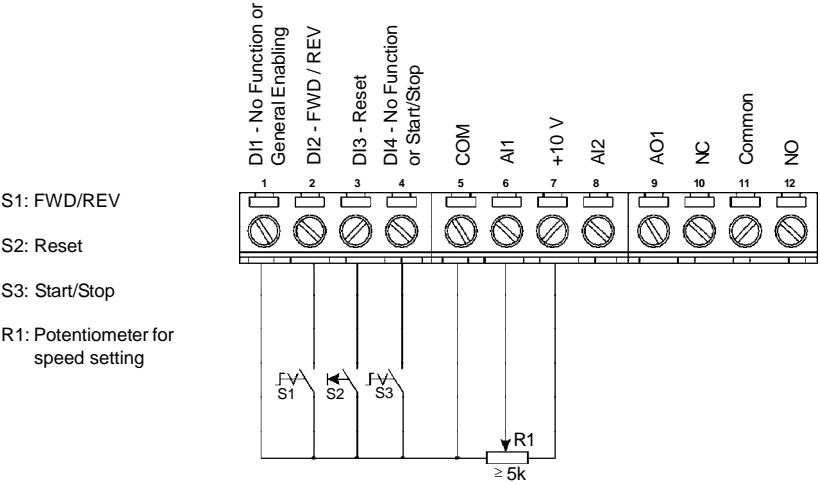

Figure 3.16 - XC1 wiring for connection 2
Valid for factory default programming and inverter operating in remote mode. For the factory default programming, the selection of the operation mode (local/remote) is made via the key  (default is local). The figure 3.16 shows the inverter terminal connection for this type of driving.
- ☑ The frequency reference can be sent via AI1 analog input (as shown in figure 3.16), via keypad HMI-CFW08-P, or via any other source (as described in the parameters P221 and P222).